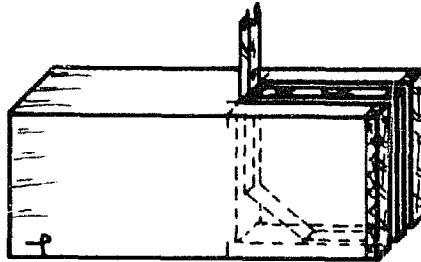

Fig. 10
- Chop out the waste with a mortice chisel, chiselling halfway through from both edges (Figs. 10 & 11).